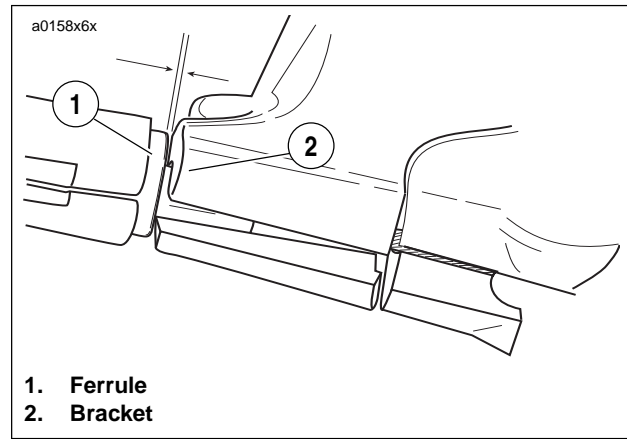

Figure 1-14. Adjusting Clutch Freeplay
5. Remove spring (4) and lockplate (5). Turn adjusting screw (6) counterclockwise until it lightly bottoms.
6. Turn adjusting screw (6) clockwise 1/4 - 1/2 turn. Install lockplate (5) and spring (4) on adjusting screw flats. If hex on lockplate does not align with recess in outer ramp, rotate adjusting screw clockwise until it aligns.
- a. See Figure 1-14. Pull ferrule (end of cable housing) away from bracket. Gap between ferrule and bracket should be 0.0625-0.125 in. (1.6-3.2 mm).